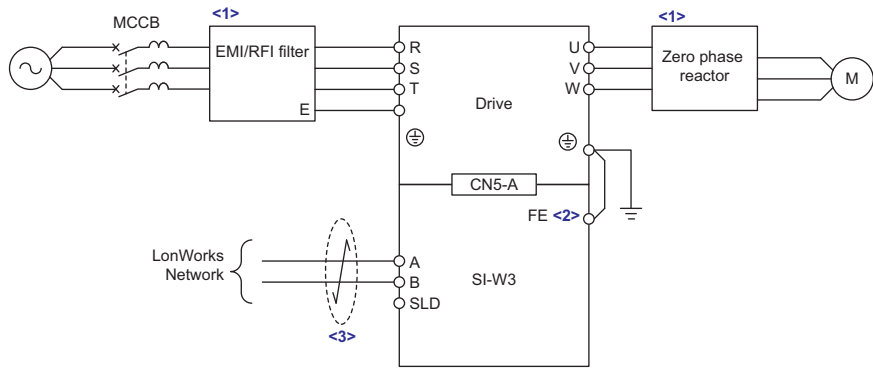

Figure 22 Option Connection Diagram
6. Firmly connect the LonWorks communication cable to the option terminal block CN1. Install LonWorks communications cables apart from main-circuit wiring and other electrical and power lines. Ensure the cable end is firmly connected (see Figure 22). Refer to Communication Cable Topology on page 25 for details of installing.
7. Replace and secure the front covers of the drive (C, F) and replace the digital operator (D).
5. Firmly connect the LonWorks communication cable to the option terminal block CN1. Install LonWorks communications cables apart from main-circuit wiring and other electrical and power lines. Ensure the cable end is firmly connected (see Figure 22). Refer to Communication Cable Topology on page 25 for details of installing.
6. Replace and secure the LED Status Ring board (H). Use the open space provided inside the LED Status Ring board to route option wiring.